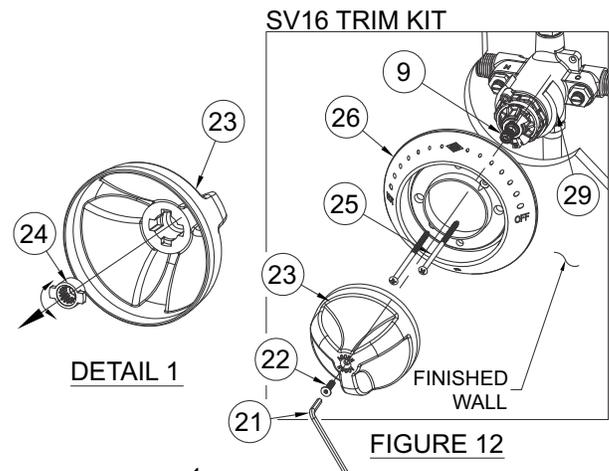

FIGURE 12
- B. Attach **valve body gasket 28** to valve body with gap on top as shown **Figure 12**.